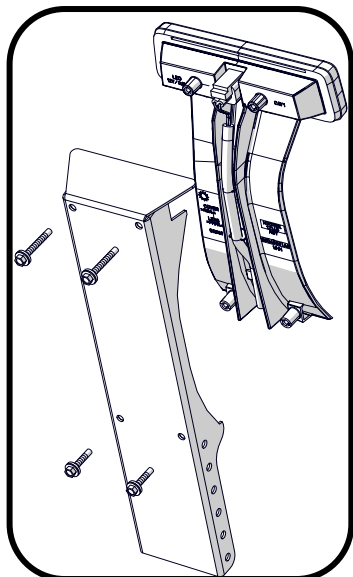

Figure 4
4. Position the light in the extension housing (**997222**). Note the screw length. The longer screws go in the top holes. (Figure 4)